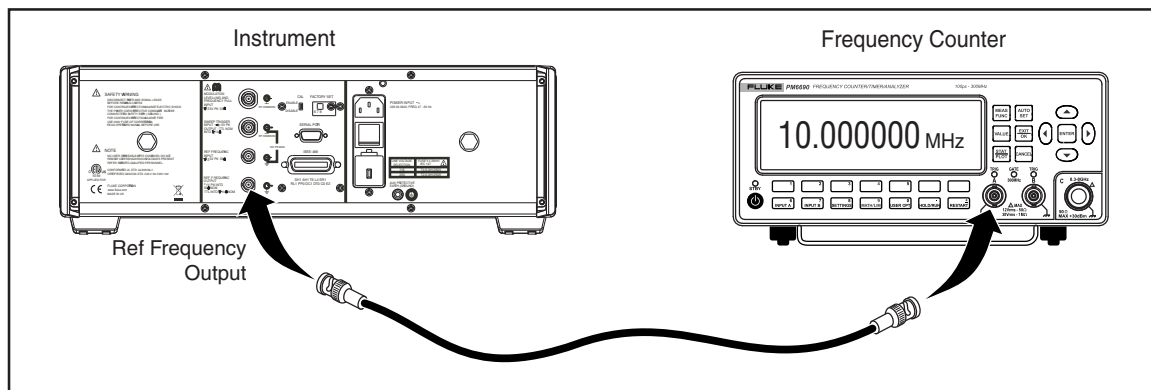

Figure 5-1. Equipment Connections - Reference Frequency Accuracy Test
3. Connect the REF FREQUENCY OUTPUT (on rear) from the UUT to the Channel A input on the frequency counter using a BNC male – male cable. Set the frequency counter input impedance to 50 Ω . See Figure 5-1 for equipment connections.